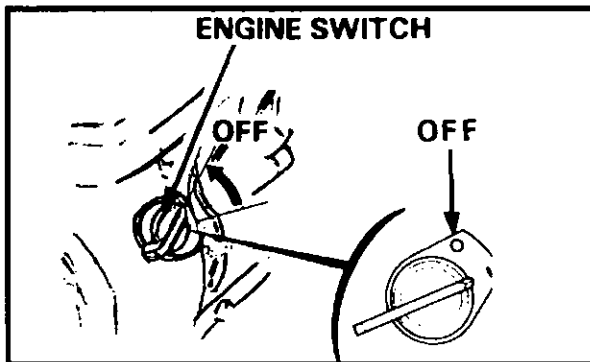

Figure 5-10 Engine Switch - OFF Position.
3. Stop the engine by turning the engine ON/OFF switch to the right to position ○, Refer Figure 5-10.